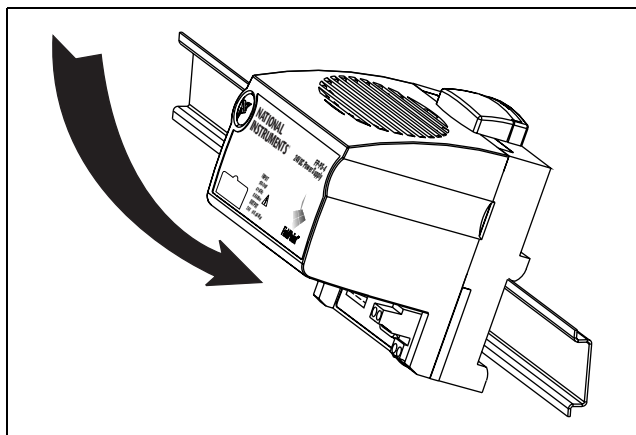

Figure 2. Attaching the Module to a DIN Rail
2. Attach the lip on the rear of the FP-PS-4 onto the top of a 35 mm DIN rail and press it down onto the DIN rail, as shown in Figure 2.